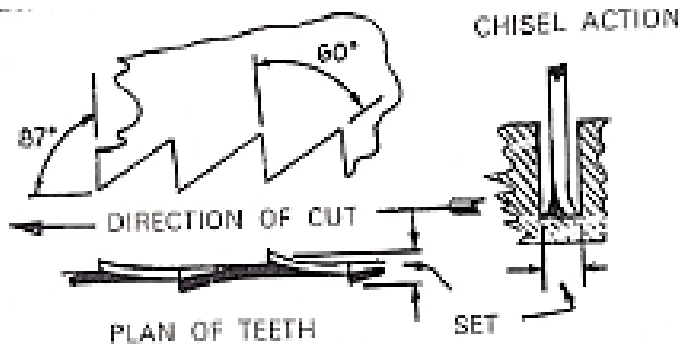

Fig. 2.20: Teeth for cutting along the grain
**Rip Saw** 660mm long,  $3\frac{1}{2}$  -  $4\frac{1}{2}$  points per 25mm (fig. 2.20).